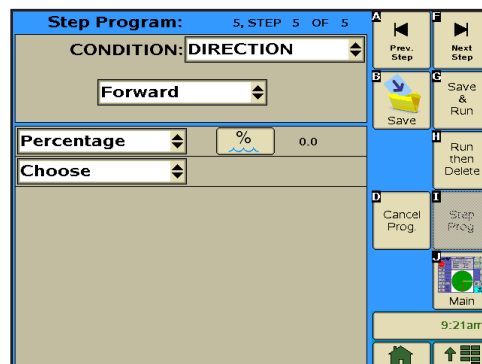

Figure 136-1
17. Program the direction condition. Refer to Figure 136-1.